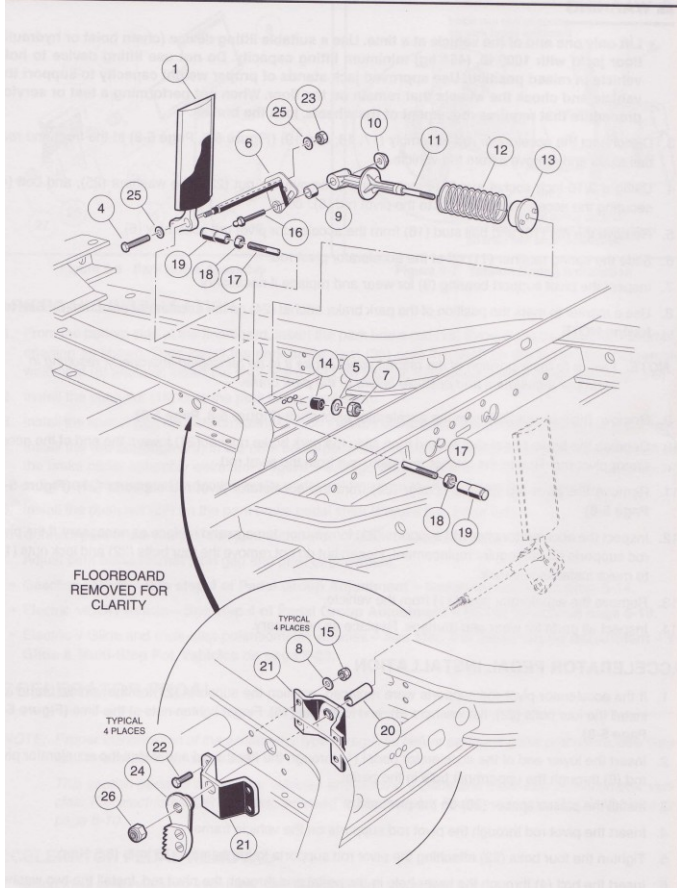

Figure 5-8
3. Disconnect the accelerator rod assembly (17, 18, and 19) (Figure 5-8) at the front and rear ball studs and remove it from the vehicle.
4. Using a 9/16-inch sock and 9/16-inch wrench, remove the nut (23), two washers (25), and bolt (4) securing the accelerator pedal (1) to the pivot rod (6).
5. Remove the nut (10) and ball stud (16) from the accelerator pivot rod assembly (6).
6. Slide the spring retainer (11) off of the accelerator pivot rod.
7. Inspect the pivot support bearing (9) for wear and replace if necessary.
8. Use a marker to mark the position of the park brake ratchet (24) on the accelerator pivot rod (6). See following Note.
9. Remove the lock nut (26) from the accelerator pivot shaft (Figure 5-8).
10. Depress the brake pedal slightly then slide the park brake ratchet (24) toward the end of the accelerator pivot rod. Rotate the ratchet and remove it from the pivot rod.
11. Remove the pivot rod (6) and spacer (20) from the accelerator pivot rod supports (21) (Figure 5-8).
12. Inspect the accelerator pivot rod supports (21) for wear or damage and replace as necessary. If the pivot rod supports do not require replacement, loosen but do not remove the four bolts (22) and lock nuts (15) to make installation easier.
13. Remove the accelerator pedal (1) from the vehicle.
1. If the accelerator pivot rod supports were replaced, position the supports (21) on the vehicle frame and install the four bolts (22), flat washers (8), and lock nuts (15). Finger tighten nuts at this time (Figure 5-8, page 5-8).
2. Insert the lower end of the accelerator pedal (1) through the floorboard and install the accelerator pivot rod (6) through the uppermost hole in the pedal.
3. Install the plastic spacer (20) on the pivot rod.
5. Tighten the four bolts (22) attaching the pivot rod supports to the frame to 75 in-lb (8.5 Nm).
6. Insert the bolt (4) through the lower hole in the pedal and through the pivot rod. Install the two washers (25), and nut (23) on the bolt. Finger tighten hardware at this time.
7. Install the ball stud (16) through the pivot rod. Install the spring retainer (11) onto the ball stud. Secure these parts with the nut (10) (Figure 5-8). Tighten the nut to 50 in-lb (5.5 Nm).
11. Install nylon lock nut (26) on pivot rod and tighten the nut to 18 ft-lb (24.5 Nm) (Figure 5-8).